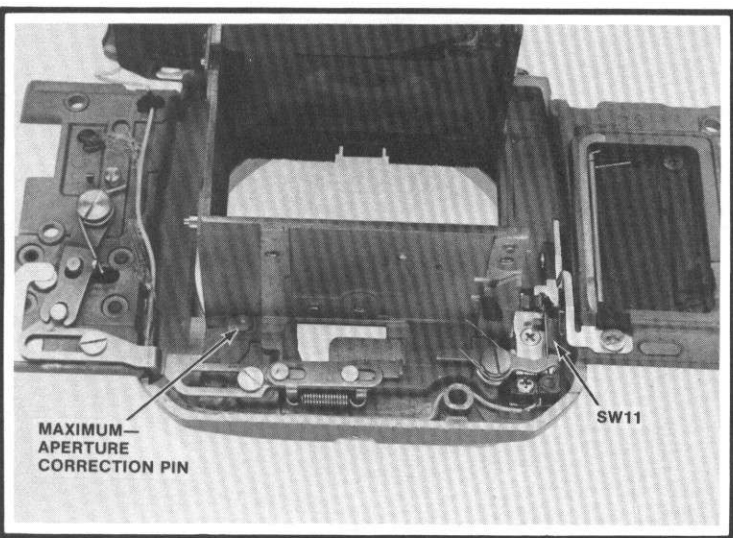

Figure 57
7. Lift out the AE unit and the auto-diaphragm unit together. Separate the two units after removing them from the mirror housing. The maximum-aperture correction pin, Fig. 57, is now loose.
1. Seat the maximum-aperture correction pin, Fig. 57.